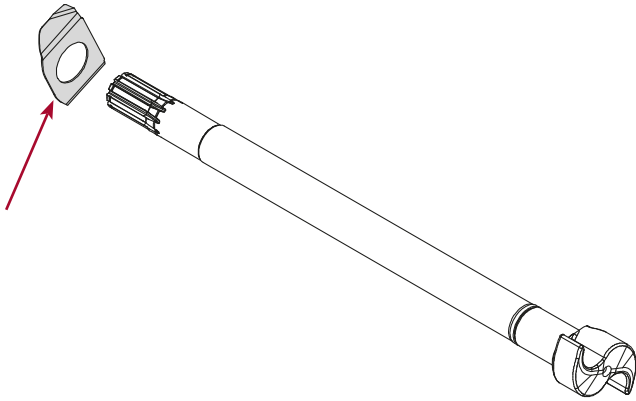

Figure 89: Under-Head Washer Fitment
1. Slide the under-head cam washer, facing onto the new S-cam, until it contacts the head. Refer Figure 89.